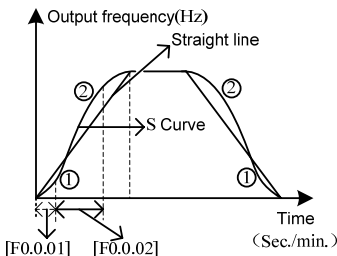

Figure 7-21 Acceleration and Deceleration Curve
As shown in item ① in Figure 7-21, the acceleration starting/deceleration ending period of S curve can be indicated by the percentage of total acceleration and deceleration time.
As shown in item ② in Figure 7-21, the acceleration rising/deceleration decreasing period of S curve is indicated by the percentage of the total acceleration and deceleration time.